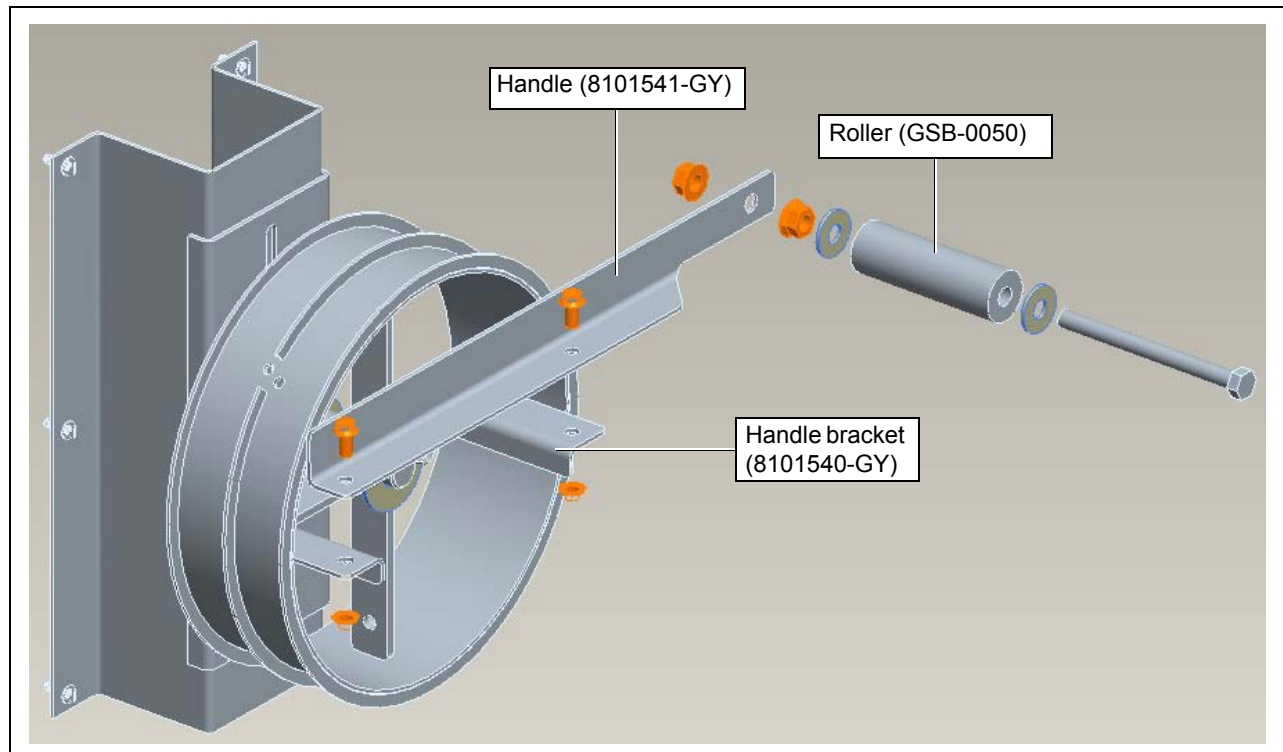

Figure 7
5. Attach the handle to the handle mount brackets. Assemble the roller to the handle. (See Figure 7.)